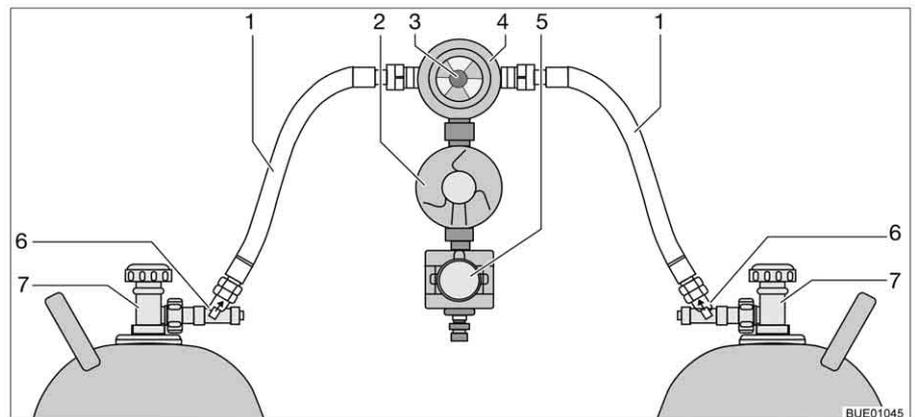

Fig. 117 Crash protection unit switching facility
The crash protection unit consists of two flow restrictors with manual release button (Fig. 117,6) a reversing valve (Fig. 117,4) with pressure regulator (Fig. 117,2), an electrovalve (Fig. 117,5) and the operating unit with tricoloured LED. The reversing valve is installed between the two gas tubes (Fig. 117,1).
Use the knob (Fig. 117,3) on the reversing valve to select which of the gas bottles is to be used as a primary bottle and which is to be used as a reserve bottle.
Only the electrical functions can be switched at the operating unit (Fig. 118). The regulator taps on the gas bottles (Fig. 117,7) and the release buttons (Fig. 117,6) must be opened manually.
- Open the regulator taps of the gas bottles (Fig. 117,7).
- Press the release buttons (Fig. 117,6) successively for 10 seconds.
- Use the knob (Fig. 117,3) on the reversing valve (Fig. 117,4) to select the gas bottle which is to be the primary source of gas (primary bottle). Always turn the knob as far as it will go.
- Close the regulator taps of the gas bottles (Fig. 117,7).